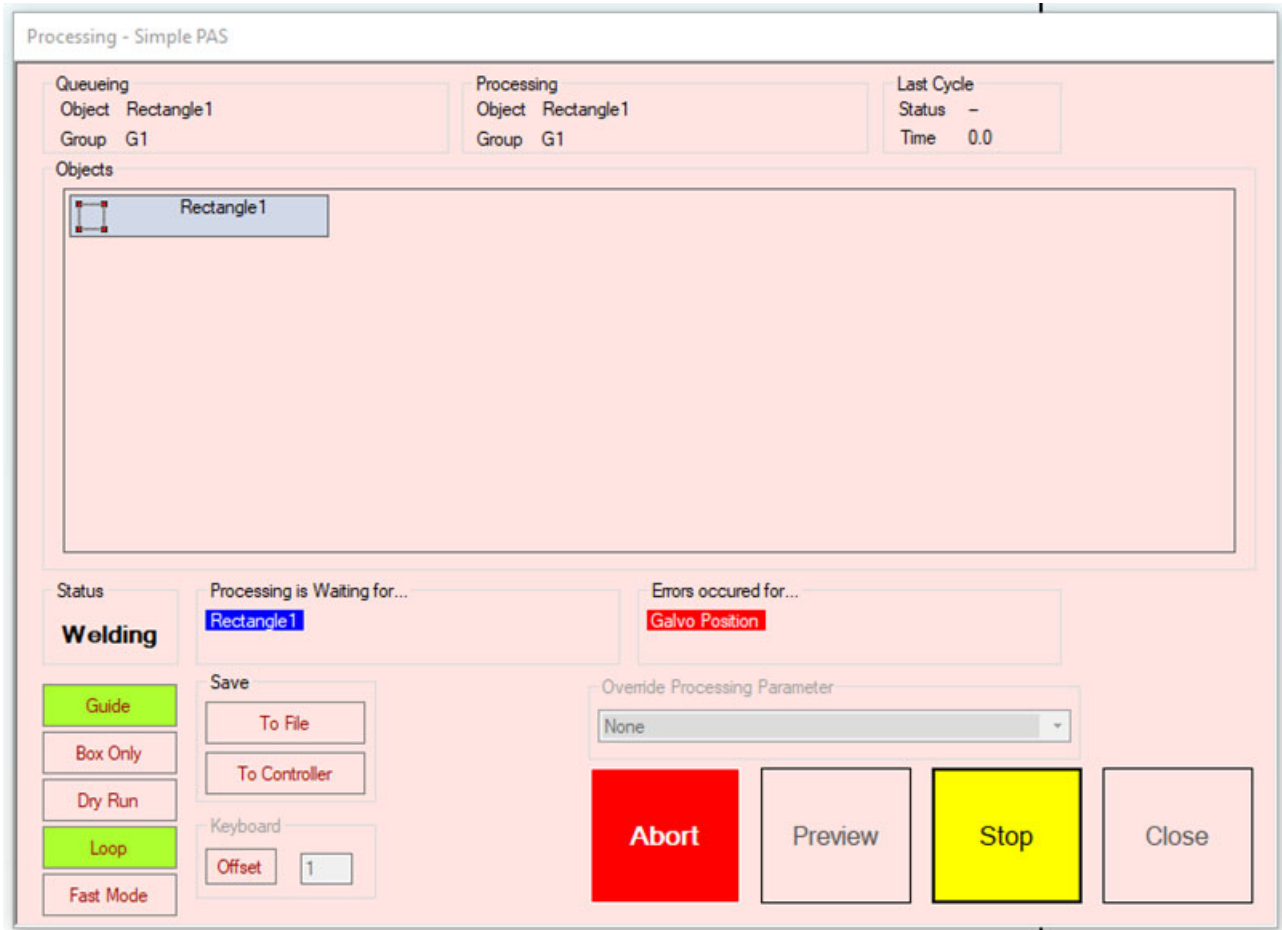

Figure 189: Processing Window Stop and Abort Buttons
- Loop Button - Will continuously loop the selected job when processing is started. Anytime the Loop function is enabled, two additional buttons become available when processing is started (see Figure 189 on page 182).